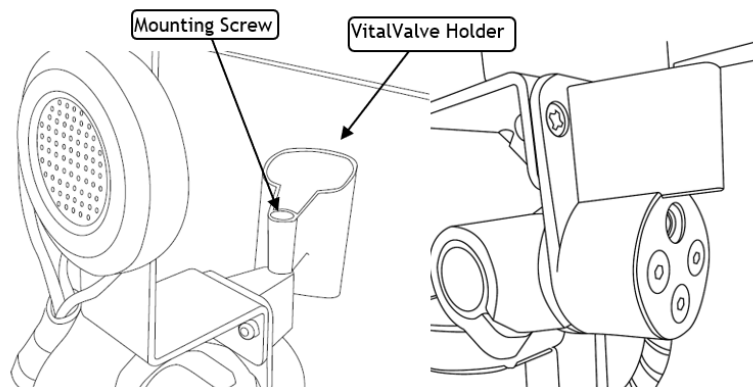
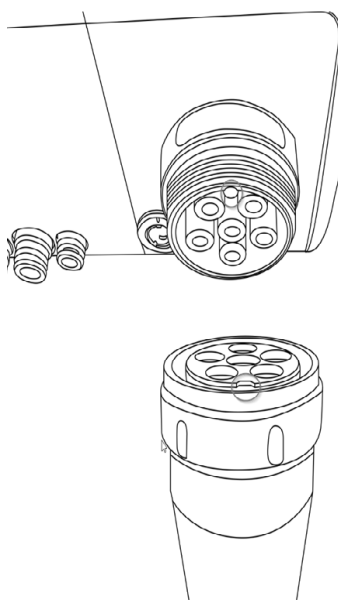
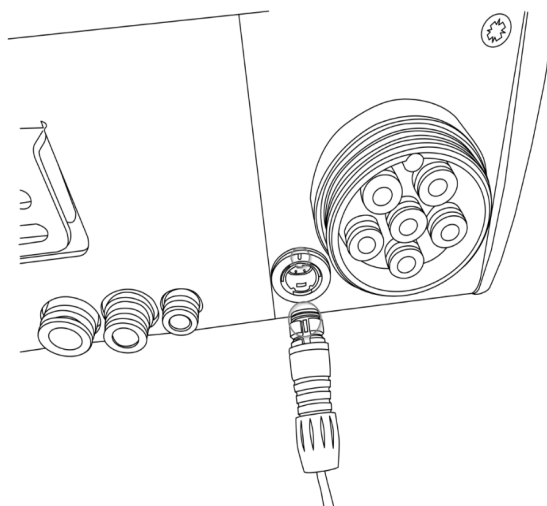
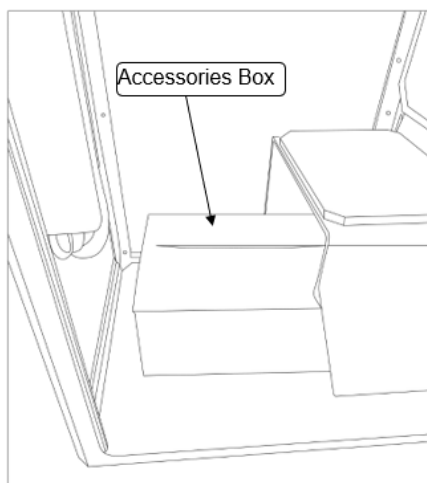

Figure 5- VitalValve Holder
Figure 7: Alignment key shown on Bulkhead Connector
Figure 8: Alignment markings shown on Heater Connector
Figure 10: Accessories Box
4. Fit the supplied height adjustable feet x4 (19) to the underside of the device.
8. Remove VitalValve Control Arm from the Accessories Box (Figure 10) which is located under the seat inside the unit and attach the VitalValve Control Arm (24) to the VitalValve Control Arm Holder (25) using the supplied attachment on the VitalValve Control Arm (24). Four M5 screws are used to secure the arm in place.
9. Attach the Monitor Bracket (7) from Accessories Box (Figure 10) to the QUB Arm Adaptor to VitalValve (1) using the supplied attachment screws and locknuts in the Accessories Box (see figure 10). Fit the speaker (21) to the Monitor Bracket (7) using the two supplied M2.5 screw in the Accessories Box (Figure 10). The 12" Monitor (20) is pre-assembled to the Monitor Bracket (7).
10. Attach the VitalValve Holder (23) from Accessories Box (Figure 10) to the QUB Arm Adaptor to VitalValve (1) using the M5 bolt supplied from Accessories Box (Figure 10). See figure 5 below:
14. Connect the VitalValve to the underside of the Internal Enclosure (2) by attaching the Bulkhead Connector to item 30 (figure 1) and place the handheld part of the VitalValve in the VitalValve holder (23). As in Figure 7, ensure that Bulkhead Connector alignment key is aligned correctly to the connector on the underside of the Internal Enclosure (2). The Bulkhead Connector must be screwed on fully to ensure a leak-tight fit.
15. Plug in the Heater Connector cable beside the Bulkhead Connector to item 31 (figure 1), aligning the white line on the connector with corresponding white line on connector on the underside of the Internal Enclosure as in Figure 8.
17. Connect one end of the Tubing Umbilical and the Heater Plug which is supplied in the Accessories box (figure 10) in the VitaloQUB to the underside of the External Control Module (10) to items 32 and 33 (figure 1) and connect the other end of the Tubing umbilical and Heater Plug to the back of the paired device taking note of the instructions in figure 7 and figure 8.